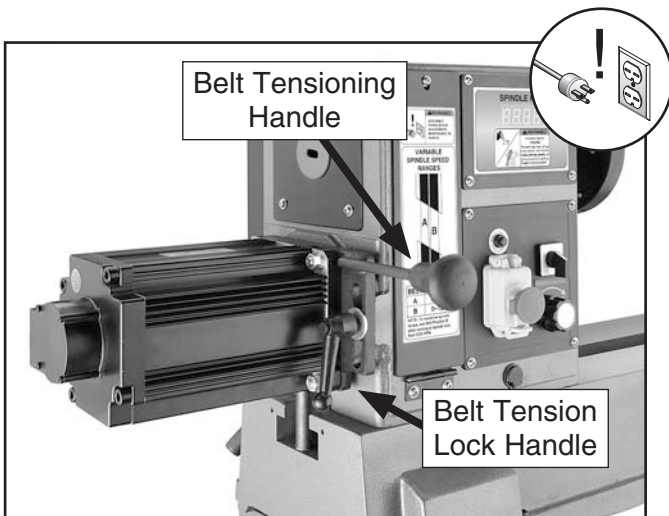

Figure 56. Belt tensioning handle and tension lock handle.
3. Loosen the belt tension lock handle (**Figure 56**).